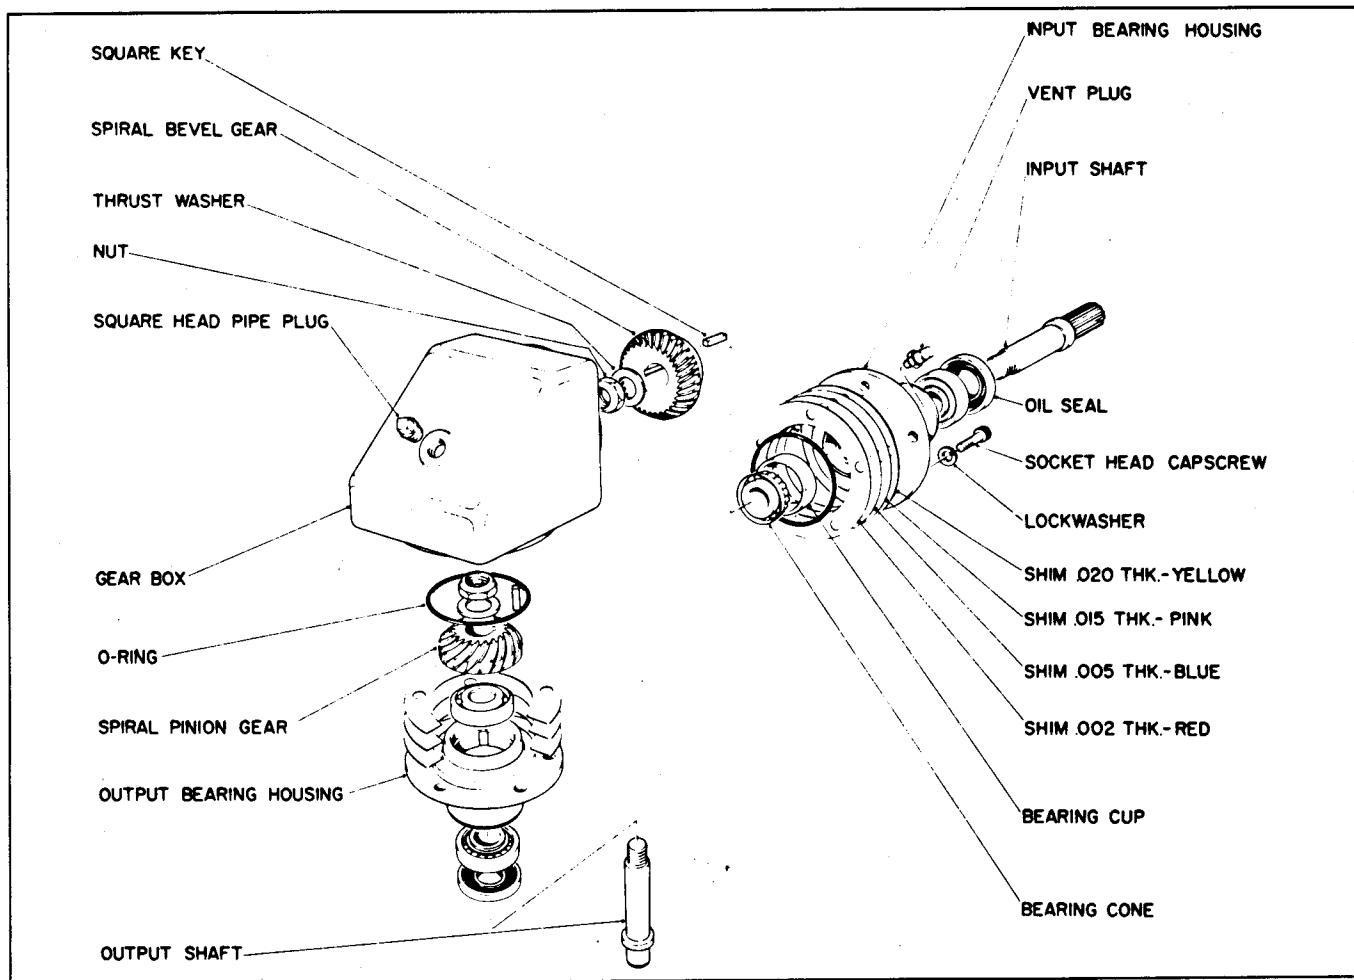

Figure 40
1. Remove the five cap screws securing the input bearing housing assembly to the gearbox. Tap the input housing with a soft-faced hammer while pulling on the input shaft to remove it from the gearbox (Fig. 40).
5. Support the mounting flange of the input bearing housing in an arbor press and press the shaft, threaded end up, out of the housing (Fig. 40).
7. Use procedures 3 - 6 above to disassemble the output shaft and bearing housing assembly (Fig. 40).
**NOTE:** Use the following procedures to assemble both of the input and output shafts to their respective bearing housings. Use an arbor press when installing bearings, seals, etc (Fig. 40).
3. Press on the remaining bearing cone. Install the square key into the shaft keyway. Press the gear onto the shaft. Apply a light coating of Loctite 242 or 601 onto the shaft and inside the gear. Install the thrust washer and nut onto the shaft (Fig. 40).
5. Apply No. 2 Permatex to the outer surface of the seal. Apply oil onto the seal lips and press the new seal into the bearing housing with the seal lips facing in toward the gearbox (Fig. 40).
1. Install the shims onto the housing (Fig. 40).
2. Oil the O-rings, install them into the housing and insert both shaft assemblies into the gearbox (Fig. 40).
If the backlash is incorrect, remove the input bearing housing assembly and add or subtract shims as necessary to achieve the specified backlash. Repeat the procedures until the correct backlash is obtained. Shims are available in Red .002 inch, Blue .005 inch, Pink .015 inch, and Yellow .020 inch (0.051, 0.13, 0.38, and 0.51 mm) sizes (Fig. 40).